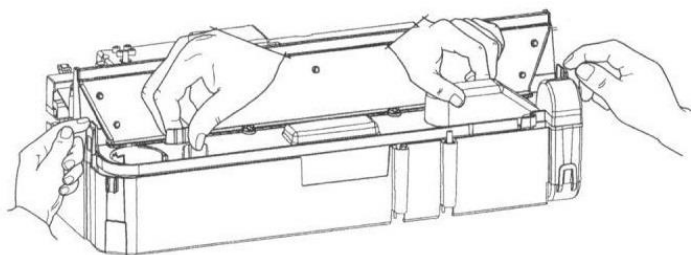

Fig 24
5. There are two orange clips holding down the nozzle on the sump; one on the left and one on the right hand side of the nozzle. On the left side, press in the clip with one hand and with the other lift the nozzle out of the clip. Repeat this for the right side (Fig. 24).